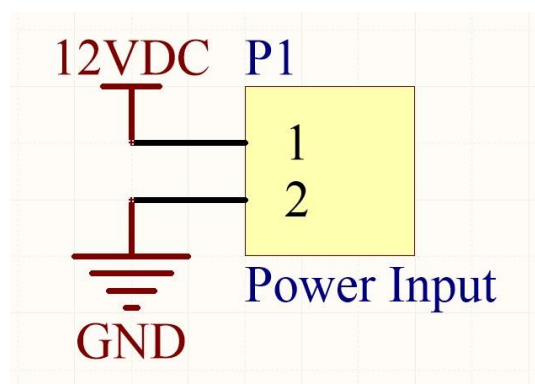

Figure 2: Header configured for an Input Power Connection
8. To wire components together, use the wire nets button (marked in Figure 1). Once this tool is selected, the mouse pointer will change to a "Plus" sign, with a smaller "cross" sign in center (Shown in Figure 2). Place the pointer at the end of the component, such that the smaller cross sign turns red. Once the smaller cross turns red, left click and drag the wire to the next component you intend to connect to. Right click to exit the wiring tool.